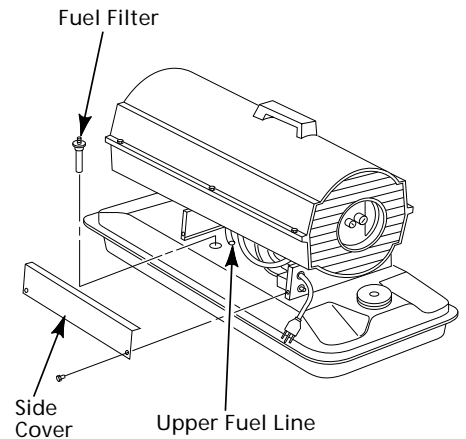

Figure 14 - Fuel Filter Removal, Models 2E510E and 2E511E
3. Pull upper fuel line off fuel filter neck (See Figure 14).
3. Remove 4 side cover screws with a 5/16" nut driver. Remove side cover (See Figures 14 and 15).
12. Replace side cover (See Figures 14 and 15).